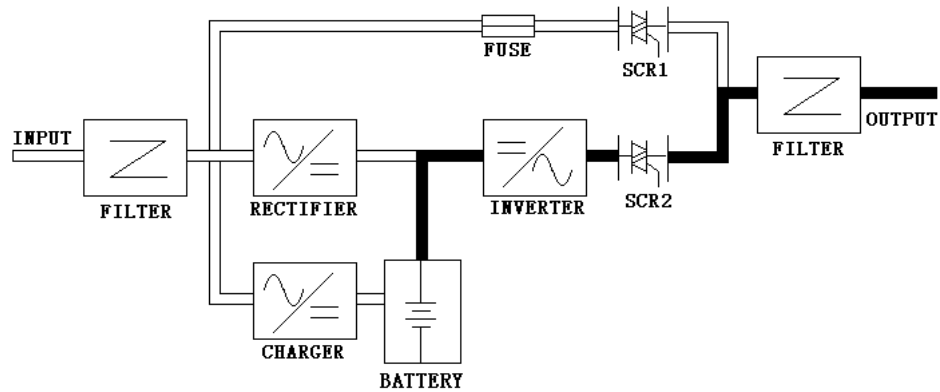

fig34
2) UPS city power off under bypass mode, as fig34